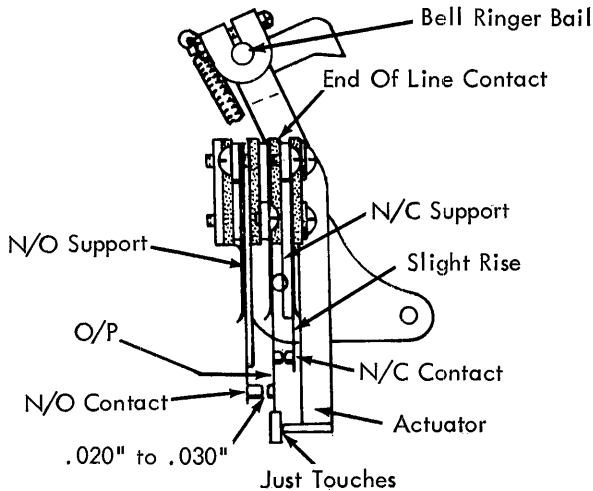

FIGURE 256. Last Column Contact Adjustment (Early)
1. Last Column Contacts (Fig. 256, Early)